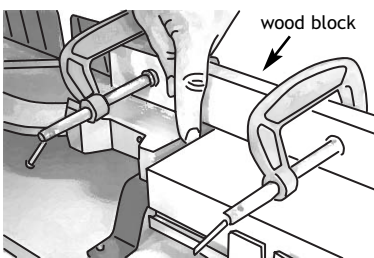

fig. 2 Clamp a wood block on either side to align each unit.
1. The first step is to secure your saw onto a board or your bench. Fix the adjustable legs to the measuring system using the screws and nuts provided. Position the measuring system to the right-hand side of the saw - screw into place only after aligning as shown in fig. 2. Leave approximately 1cm gap (finger width) between the saw and the measuring system - the vibration of the saw may move the measuring table if they are touching.
2. The back fence of the measuring system should be aligned with the back fence of the saw. A wood block clamped on either side (as shown in fig. 2) will make this easier. Adjust the height of the measuring table so that it is the same level as the saw table. Lock into position using slotted screws on the legs. Fix the measuring system table to the base board.